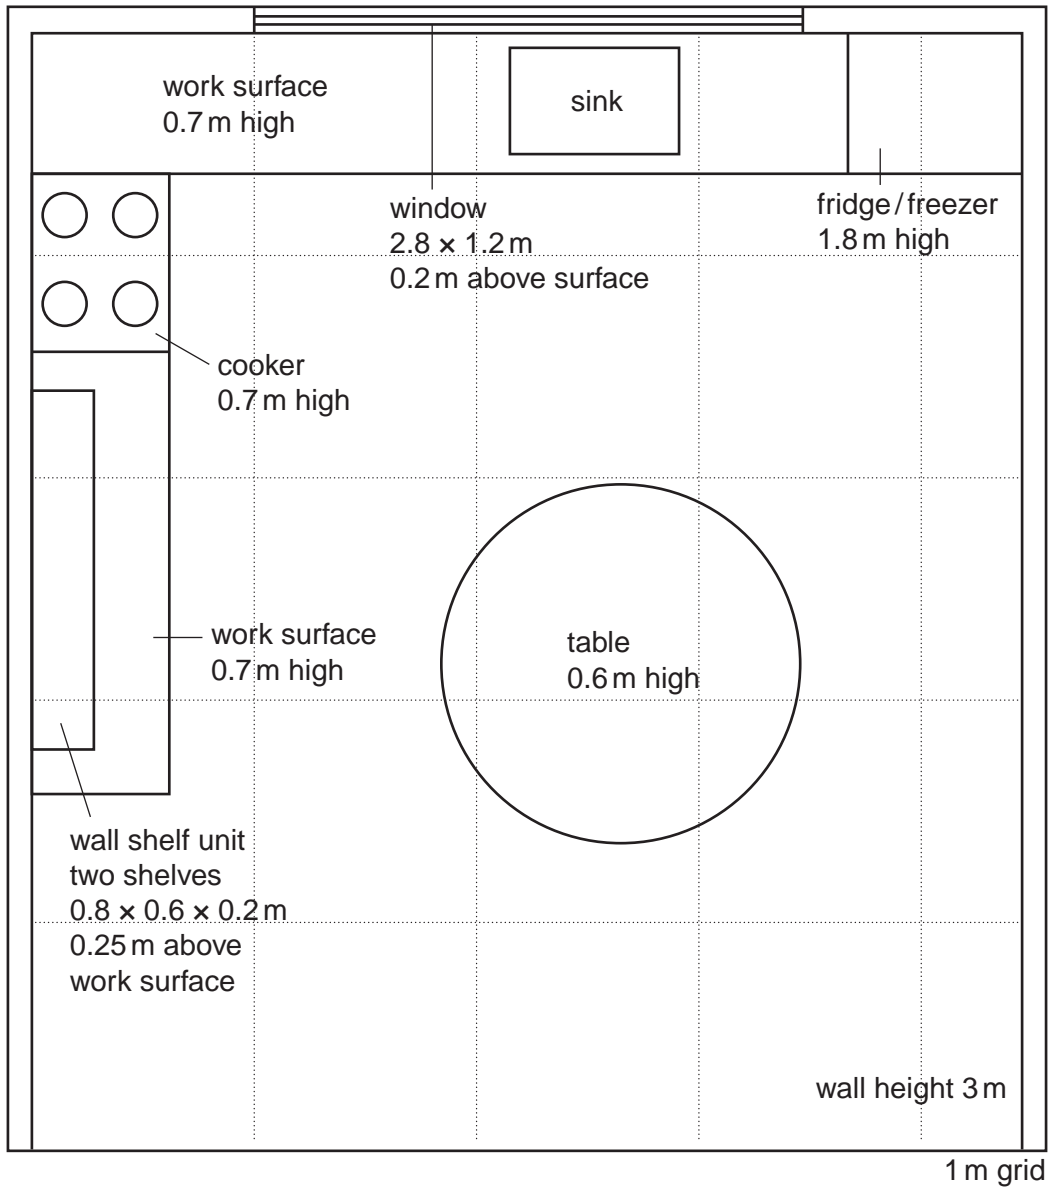

Fig. 7
- 9 Fig. 7 shows the plan of a kitchen.